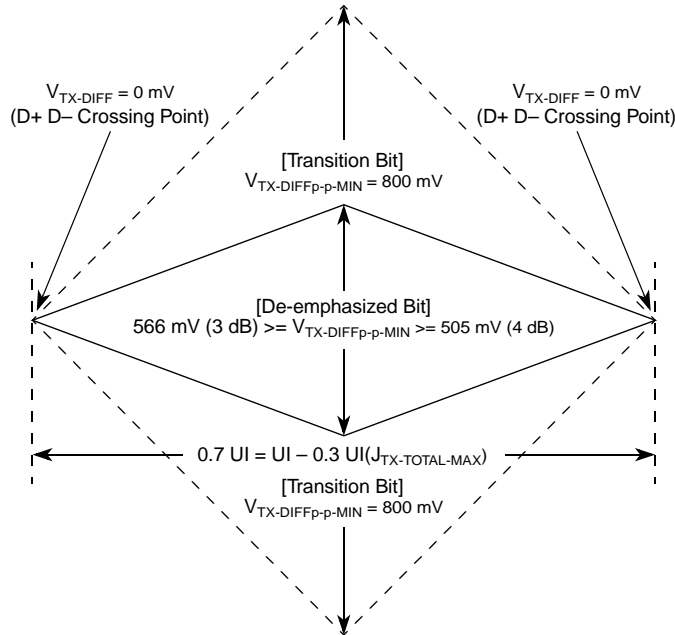
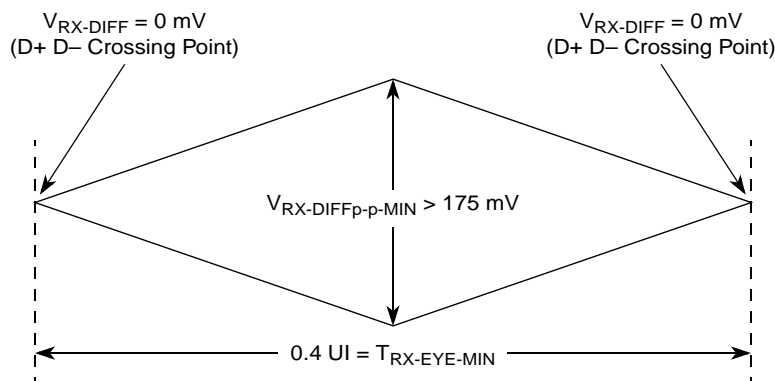
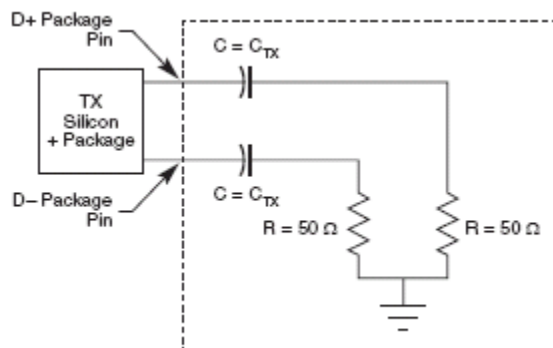

Figure 49. Minimum Transmitter Timing and Voltage Output Compliance Specifications
Figure 50. Minimum Receiver Eye Timing and Voltage Compliance Specification
Figure 51. Compliance Test/Measurement Load
2. Specified at the measurement point into a timing and voltage compliance test load as shown in Figure 51 and measured over any 250 consecutive TX UIs. (Also refer to the transmitter compliance eye diagram shown in Figure 49.)
4. The transmitter input impedance shall result in a differential return loss greater than or equal to 12 dB and a common mode return loss greater than or equal to 6 dB over a frequency range of 50 MHz to 1.25 GHz. This input impedance requirement applies to all valid input levels. The reference impedance for return loss measurements is 50 Ω to ground for both the D+ and D- line (that is, as measured by a vector network analyzer with 50- Ω probes, see Figure 51). Note that the series capacitors, C_{TX} , is optional for the return loss measurement.
5. Measured between 20%–80% at transmitter package pins into a test load as shown in Figure 51 for both V_{TX-D+} and V_{TX-D-} .
The TX eye diagram in Figure 49 is specified using the passive compliance/test measurement load (see Figure 51) in place of any real PCI Express interconnect + RX component. There are two eye diagrams that must be met for the transmitter. Both diagrams must be aligned in time using the jitter median to locate the center of the eye diagram. The different eye diagrams differ in voltage depending on whether it is a transition bit or a de-emphasized bit. The exact reduced voltage level of the de-emphasized bit is always relative to the transition bit.
- Specified at the measurement point and measured over any 250 consecutive UIs. The test load in Figure 51 should be used as the RX device when taking measurements (also refer to the receiver compliance eye diagram shown in Figure 50). If the clocks to the RX and TX are not derived from the same reference clock, the TX UI recovered from 3500 consecutive UI must be used as a reference for the eye diagram.
- The receiver input impedance shall result in a differential return loss greater than or equal to 15 dB with the D+ line biased to 300 mV and the D- line biased to -300 mV and a common mode return loss greater than or equal to 6 dB (no bias required) over a frequency range of 50 MHz to 1.25 GHz. This input impedance requirement applies to all valid input levels. The reference impedance for return loss measurements for is 50 Ω to ground for both the D+ and D- line (that is, as measured by a vector network analyzer with 50- Ω probes, see Figure 51). Note that the series capacitors, C_{TX} , is optional for the return loss measurement.
The RX eye diagram in Figure 50 is specified using the passive compliance/test measurement load (see Figure 51) in place of any real PCI Express RX component. In general, the minimum receiver eye diagram measured with the compliance/test measurement load (see Figure 51) is larger than the minimum receiver eye diagram measured over a range of systems at the input receiver of any real PCI Express component. The degraded eye diagram at the input Receiver is due to traces internal to the package as well as silicon parasitic characteristics which cause the real PCI Express component to vary in impedance from the compliance/test measurement load. The input receiver eye diagram is implementation specific and is not specified. RX component designer should provide additional margin to adequately compensate for the degraded minimum Receiver eye diagram (shown in Figure 50) expected at the input receiver based on an adequate combination of system simulations and the return loss measured looking into the RX package and silicon. The RX eye diagram must be aligned in time using the jitter median to locate the center of the eye diagram.
The reference impedance for return loss measurements is $50\ \Omega$ to ground for both the D+ and D- line (that is, as measured by a Vector Network Analyzer with $50\ \Omega$ probes—see Figure 51). Note that the series capacitors, $C_{PEACCTX}$, are optional for the return loss measurement.
The AC timing and voltage parameters must be verified at the measurement point, as specified within 0.2 inches of the package pins, into a test/measurement load shown in Figure 51.